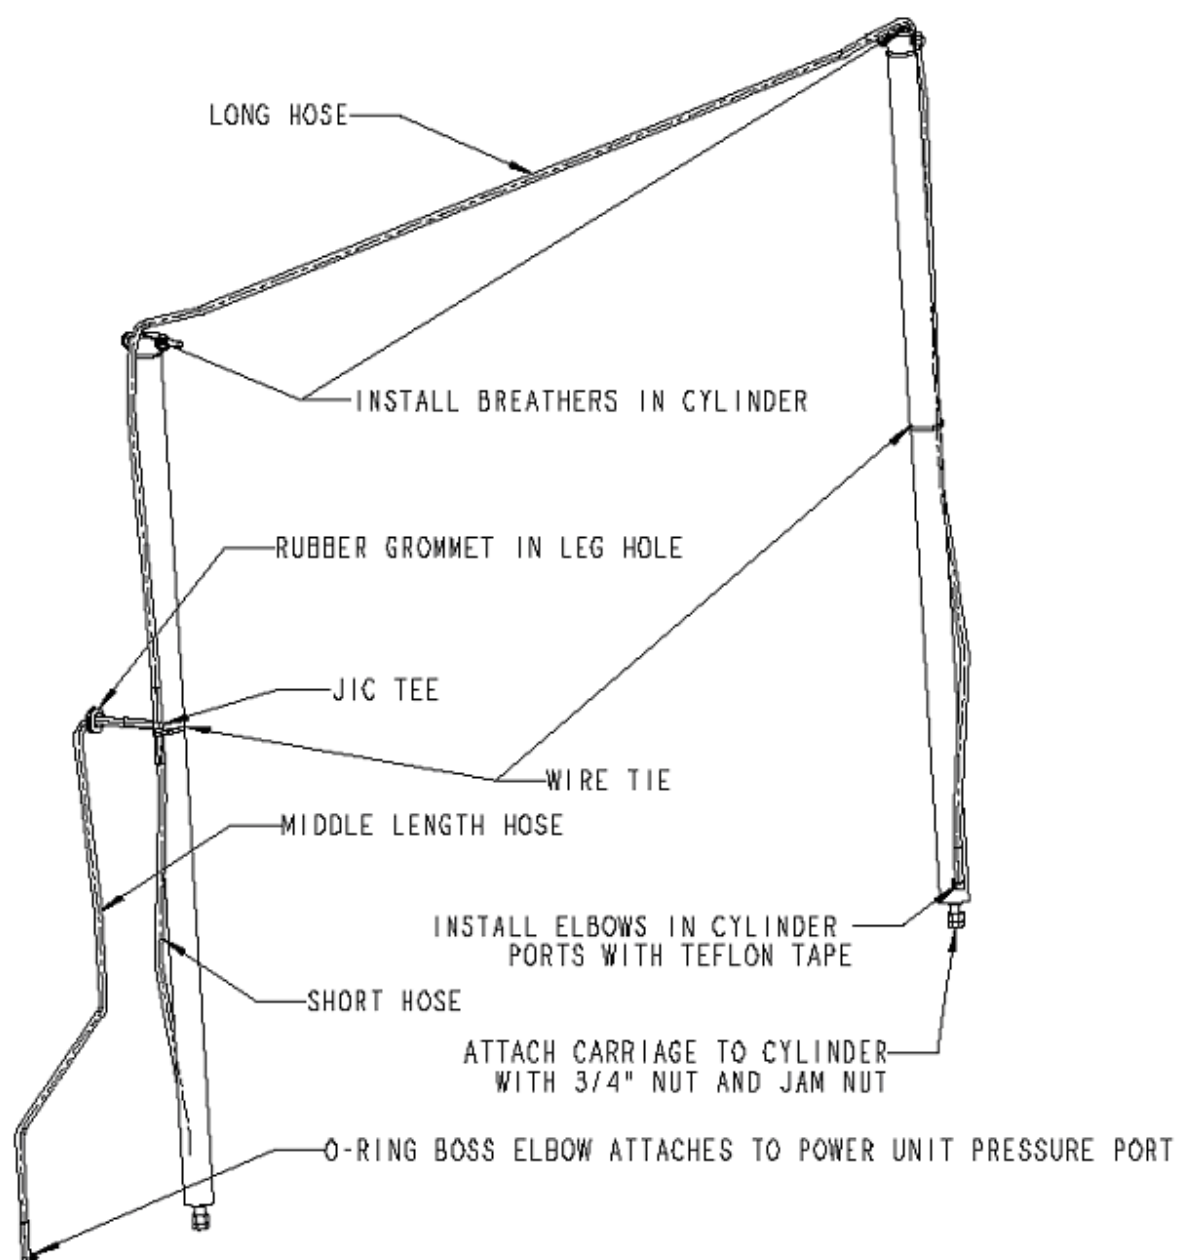

Figure 4
13. **Hydraulic system, figure 4.**